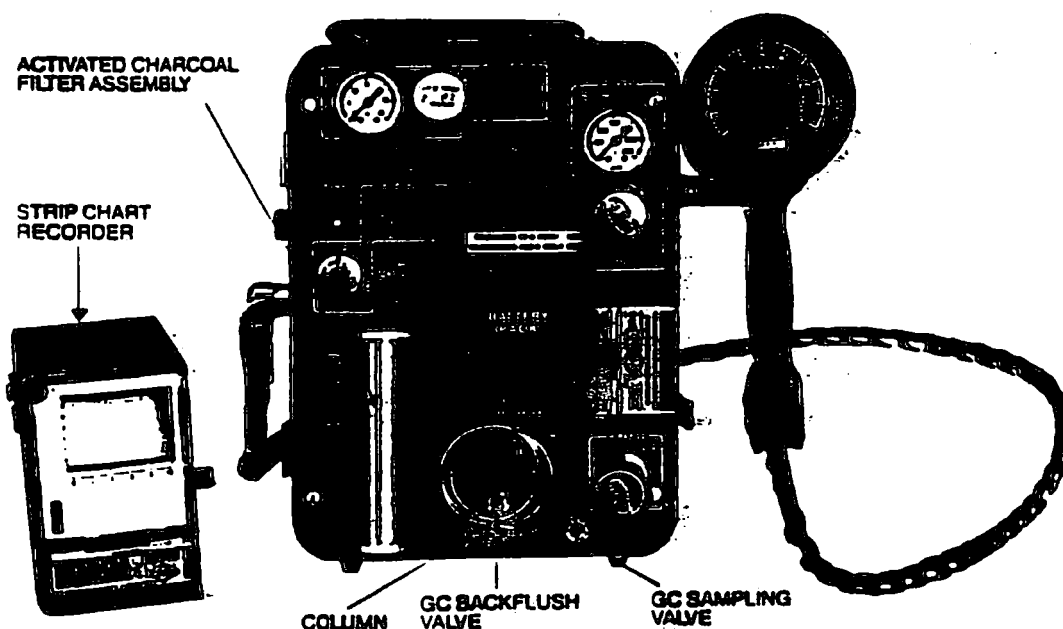

FIGURE 6
To provide this capability, a gas chromatograph (GC) option is available. See Figure 6 for the location of the major components and controls associated with the GC option. When the GC option is used, the capability of the OVA includes both qualitative and on-the-spot quantitative analysis of specific components present in the ambient environment. The Recorder, which is used with the GC option, is described separately.